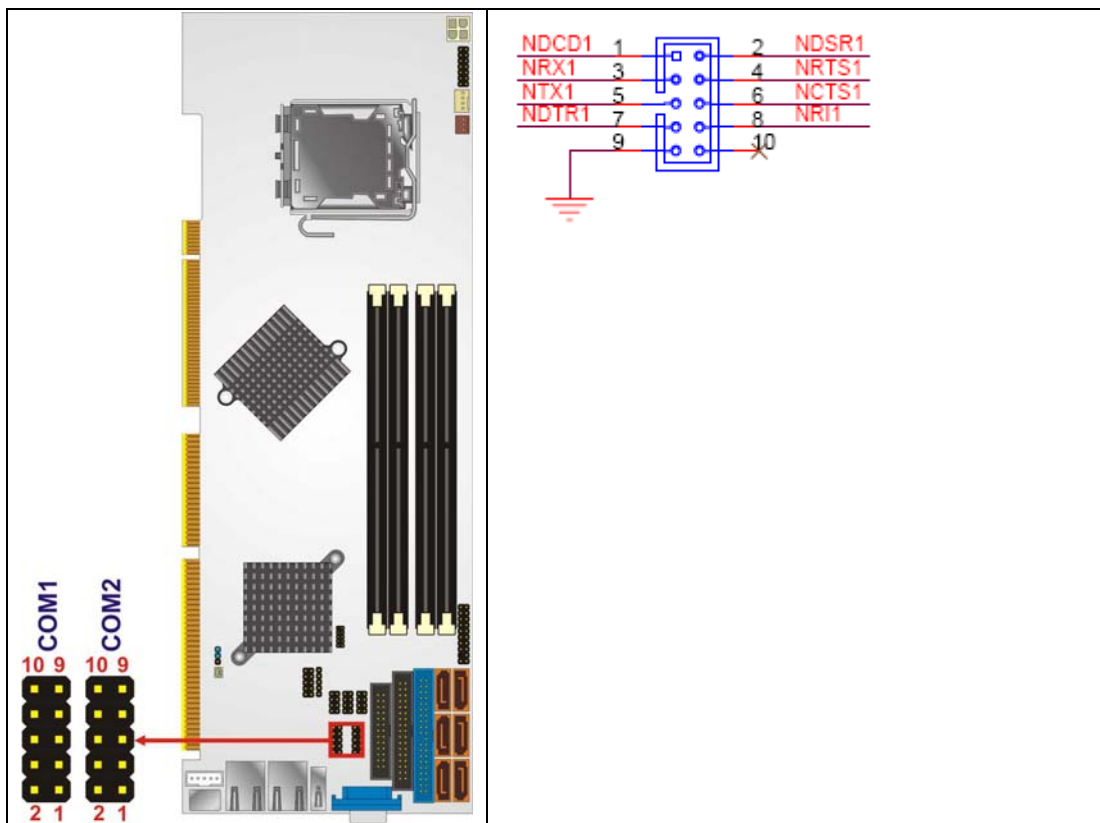

Figure 4-13: Serial Connector Location
- CN Location:** See Figure 4-13